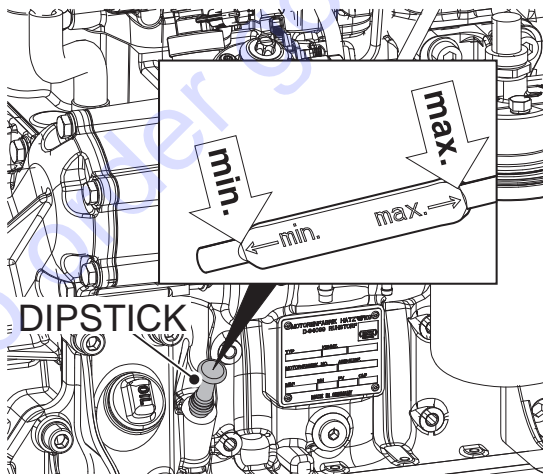

Figure 11. Engine Oil Dipstick
- Pull out the dipstick and check the oil level (Figure 11).